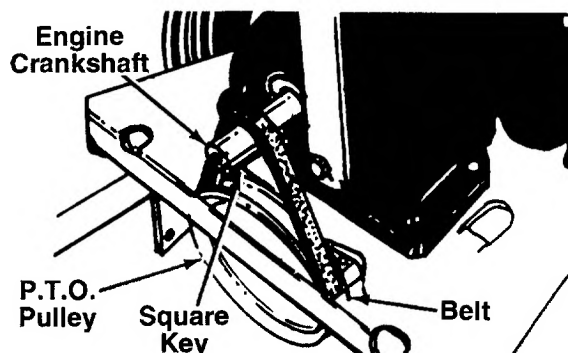

FIGURE 20.
5. Slide belt off the impeller pulley. Slide housing and impeller off engine crankshaft. Be careful to not lose square key. See figure 20.
7. Remove belt from P.T.O. pulley and install new belt. See figure 20.